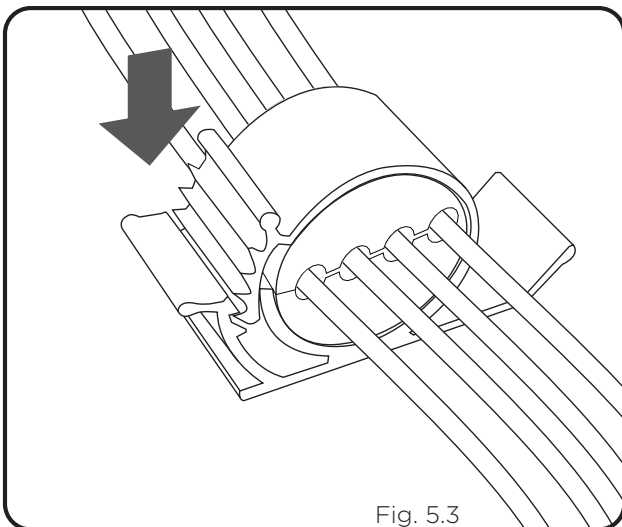

Fig. 5.3
- 5.5. Tighten the Rear Cable Clamp to secure the fiber cables. (Fig. 5.3)